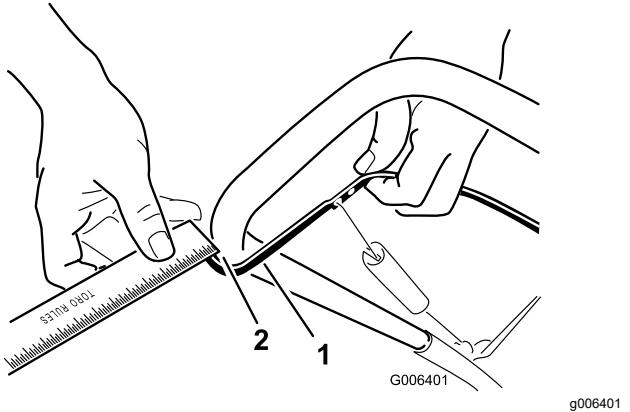

Figure 16
Note: Ensure that a 2 to 3 mm (1/16 to 1/8 inch) gap exists between the control bar and the handle (Figure 16).
Move the control bar back toward the handle to remove the slack in the control cable (Figure 16).
2. Move the Z-fitting to a higher or lower hole on the adjuster link as needed to obtain the 2 to 3 mm (1/16 to 1/8 inch) gap between the control bar and the handle (Figure 16).